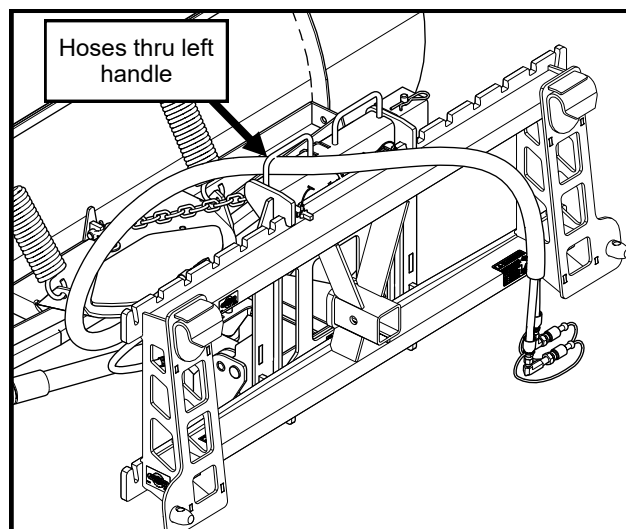

Fig. 9.3—Plow Hoses to Diverter Kit
9.3 Route the free end of the hydraulic hoses through the left handle of the mounting frame and connect to the front manifold of the Diverter Kit. Match the yellow and black capped hoses to the same colors on the diverter kit. See Fig. 9.3.